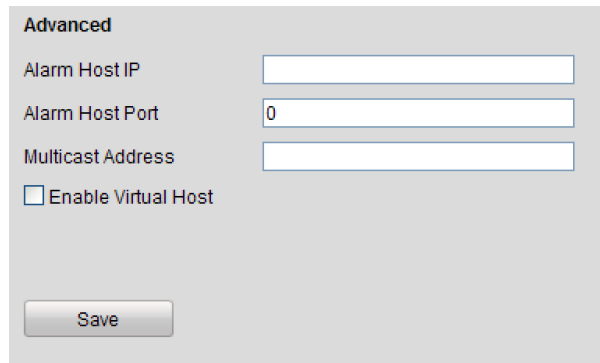

Figure 12-27 Advanced Settings Interface
Step 1 Enter the Advanced settings interface, as shown in the Figure 12-27.